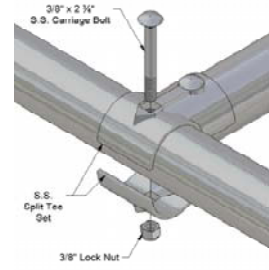

Fig. 4
In the steps below, **'With a split tee'** refers to joining two segments of pipe together using two halves of a split tee, two (2) 3/8" by 2 3/4" carriage bolts, and two (2) 3/8" Nylock nuts (See Figure 4). Always attach split tees so that the heads of the bolts face to the outside or top of the guard chair and the nuts are oriented to the inside of the unit. This will present a cleaner appearance while minimizing surfaces prone to snagging clothes, etc.